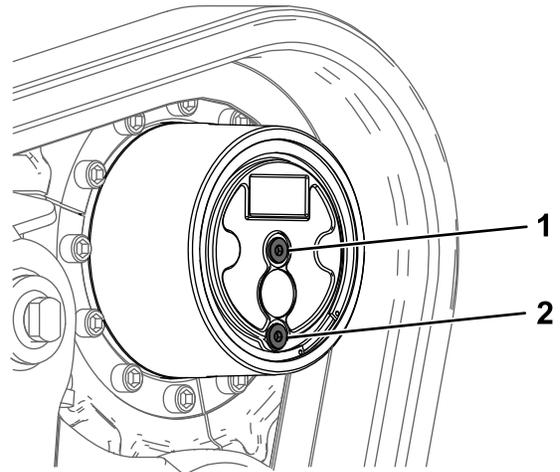

Figure 67
2. Park the machine on a level surface so that the drain plug is in the 6 o'clock position (Figure 67), engage the parking brake, and lower the loader arms.
5. Remove the check plug and the drain plug and allow the gear lubricant to drain (Figure 67).
6. Install the drain plug (Figure 67).